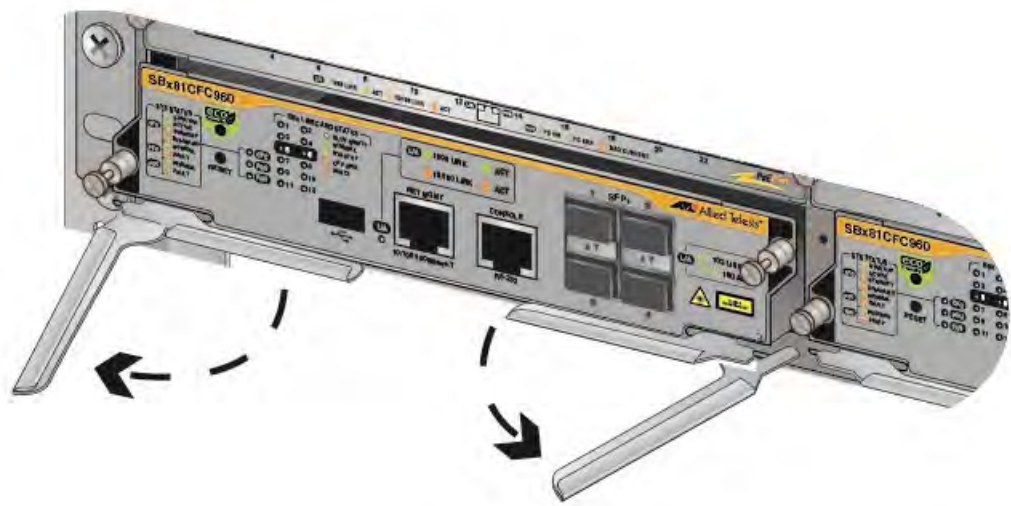

Figure 184. Pulling out the Retaining Handles on the AT-SBx81CFC960 Controller Card
4. Carefully pull out the handles of the faceplate to disconnect the controller card from the internal connector on the backplane of the chassis. Refer to Figure 184.